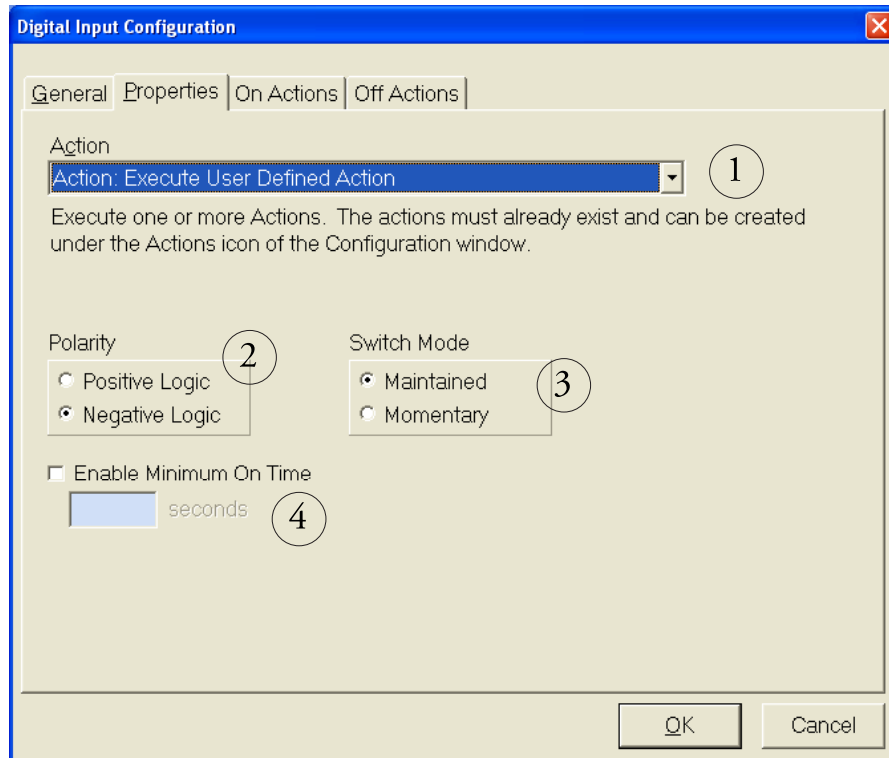

Figure 26. Digital Input Configuration panel.
This will open the Digital Input configuration panel, as shown in figures 26, 27 and 28. The panel has four tabs, General, Properties, On Actions, and Off Actions.
- 1.1 From the Action drop-down list, select your desired Action (*Part 1 in Figure 26*).
2. Polarity (*Part 2 in Figure 26*).
If your desired action consists of an "on" event and a possible "off" event, you will have a Switch Mode choice. The Switch Mode will specify when the off event occurs (*Part 3 in Figure 26*).
4. Determine how long your signal needs to be sustained before the signal is considered valid (Minimum On Time) (*Part 4 in Figure 26*).